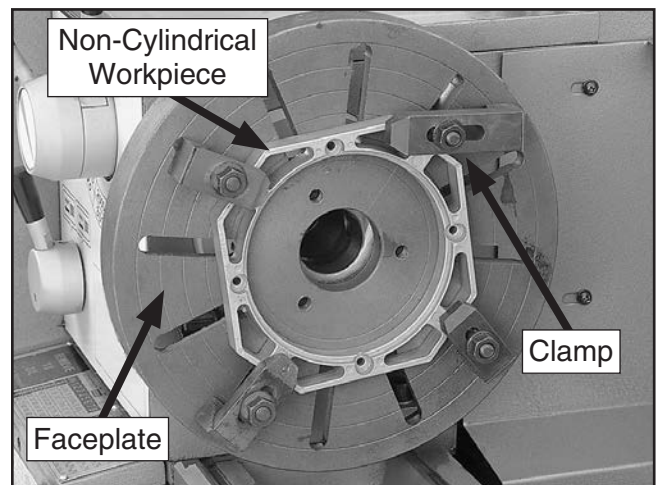

Figure 32. Generic picture of workpiece clamped in a faceplate.
3. With help from another person or a holding device to support the workpiece, position it onto the faceplate and clamp it in place with a minimum of three independent clamping devices (see **Figure 32** for an example).